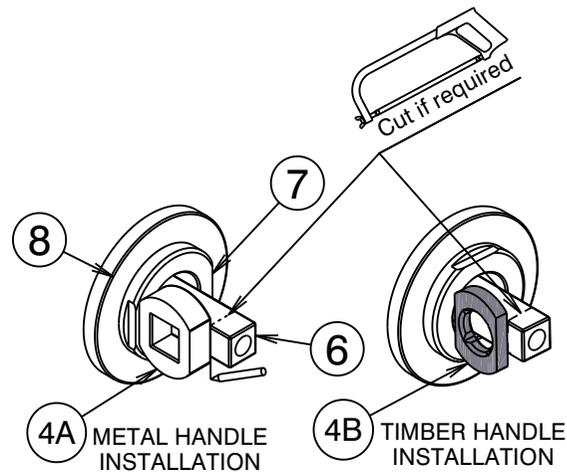

Fig. 4
- * This mixer accomodates in-wall depths from 65 - 75mm. For installations with less than 75mm, the handle insert (6) must be cut by using spacer (4) as a template. (Step 3 & Fig.4.)
3) When the metal handle (1) is to be fitted:-
If required, using the **plastic** handle spacer (4A) as a template, place the flat side of the spacer against the front surface of the sleeve (7) & scribe a line around the plastic insert (6) as shown (Fig.4). Carefully cut the plastic insert (6) along the marked line and remove any burrs, then slide the plastic handle spacer (4A) onto the plastic insert (6) until spacer rests against the sleeve (7).
If required, using the **brass** handle spacer (4B) as a template, place the flat side of the spacer against the front surface of the sleeve (7) & scribe a line around the plastic insert (6) as shown (Fig.4). Carefully cut the plastic insert (6) along the marked line and remove any burrs, then slide the brass handle spacer (4B) onto the plastic insert (6) until spacer rests against the sleeve (7).